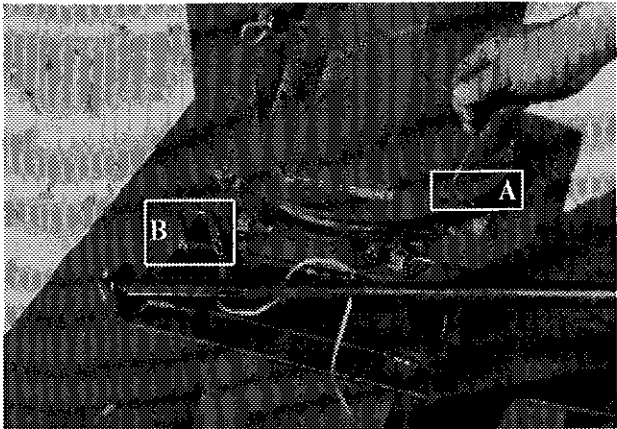

Figure 20
- 3) **Figure 20:** Route cable through guide (B) and clockwise around the chute. Insert it through one of the anchor holes (A) and secure it temporarily with locking pliers.